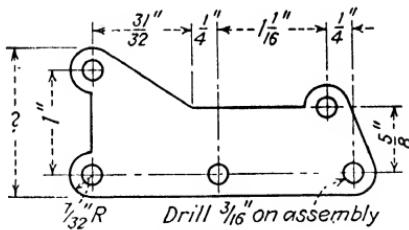

Fig. 40.
- 4.** Convert each of the dimensions in Fig. 40 to decimals accurate to the nearest thousandth of an inch.
- 5.** Find the missing dimension of the fitting in Fig. 40.